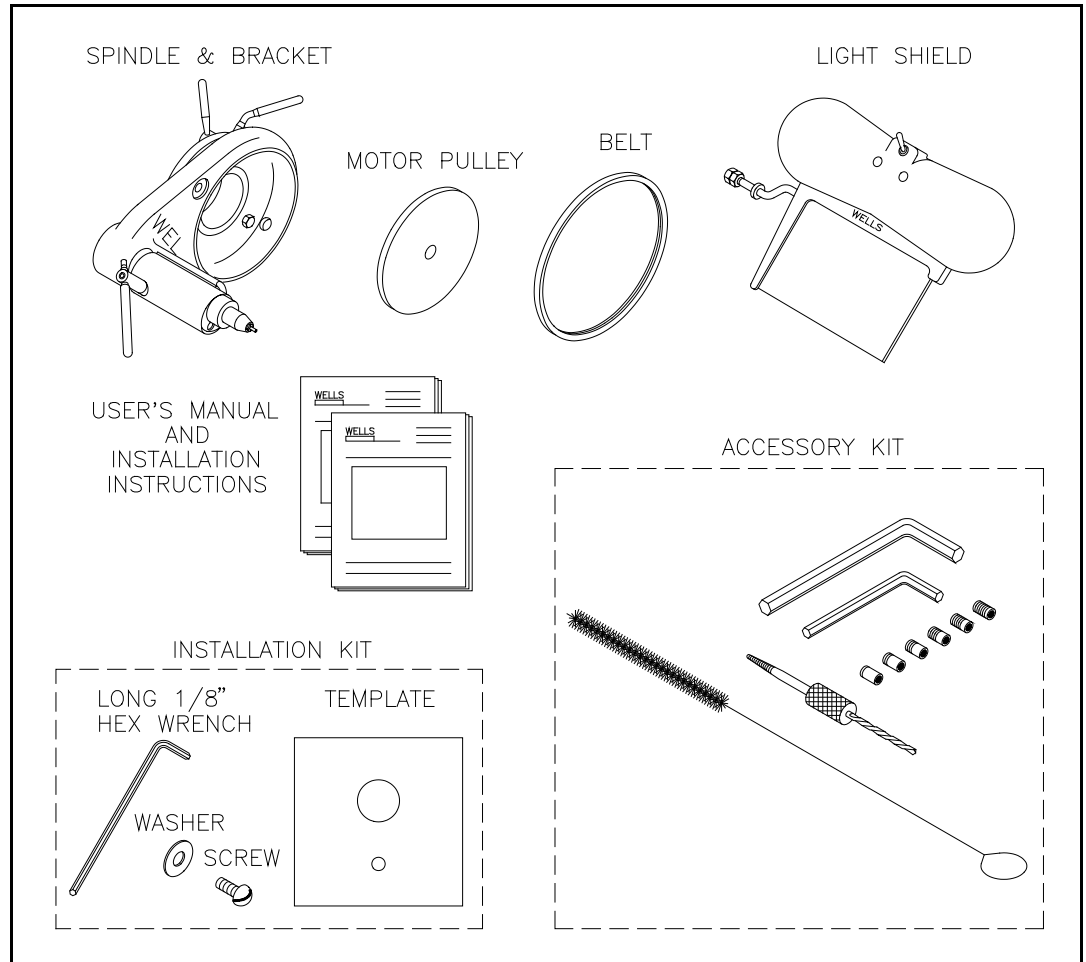

Figure 2. Carton contents
1.2 Open the shipping carton and remove the contents. Figure 2. shows the items that should be in the carton. Inspect the Gold Chrome Bracket Assembly and accessories for damage or shortages.